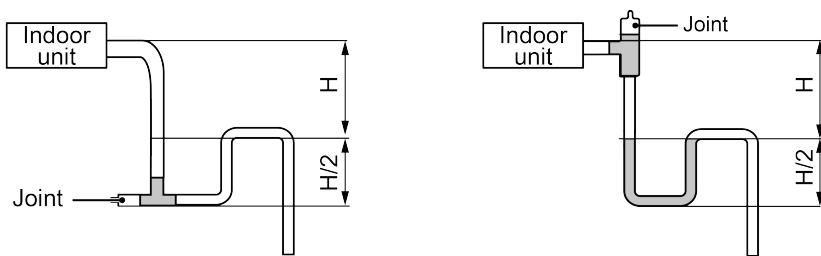

Fig 4.12
- (5) For indoor units that have high pressure at the outlet of drain pipe, use water-sealed joint.
- (6) For indoor units that have high pressure at the outlet of drain pipe, use water-sealed joint.
- (7) Install the water-sealed joint according to Fig 4.12.
- (8) Each unit should be installed with one water-sealed joint.